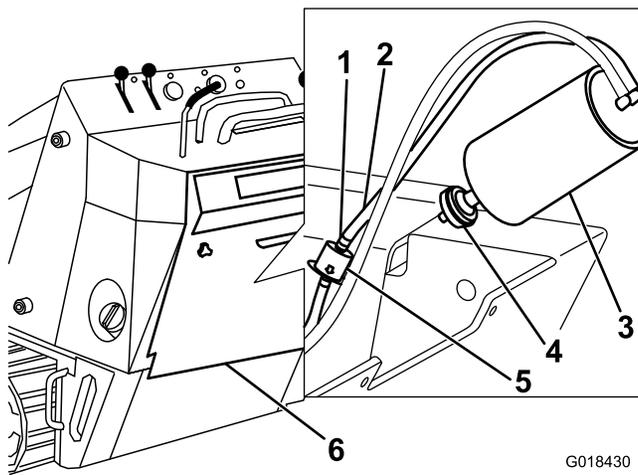

Figure 34
3. Remove and discard the air filter (Figure 34).
4. Install a new filter onto the carbon canister (Figure 34).
3. Move the spring-type hose clamps on both sides of the carbon-canister purge-line filter away from the filter (Figure 34).
4. Remove and discard the purge-line filter (Figure 34).
5. Install a new filter into the hose with the arrow on the filter pointing away from the carbon canister and secure it with the hose clamps (Figure 34).